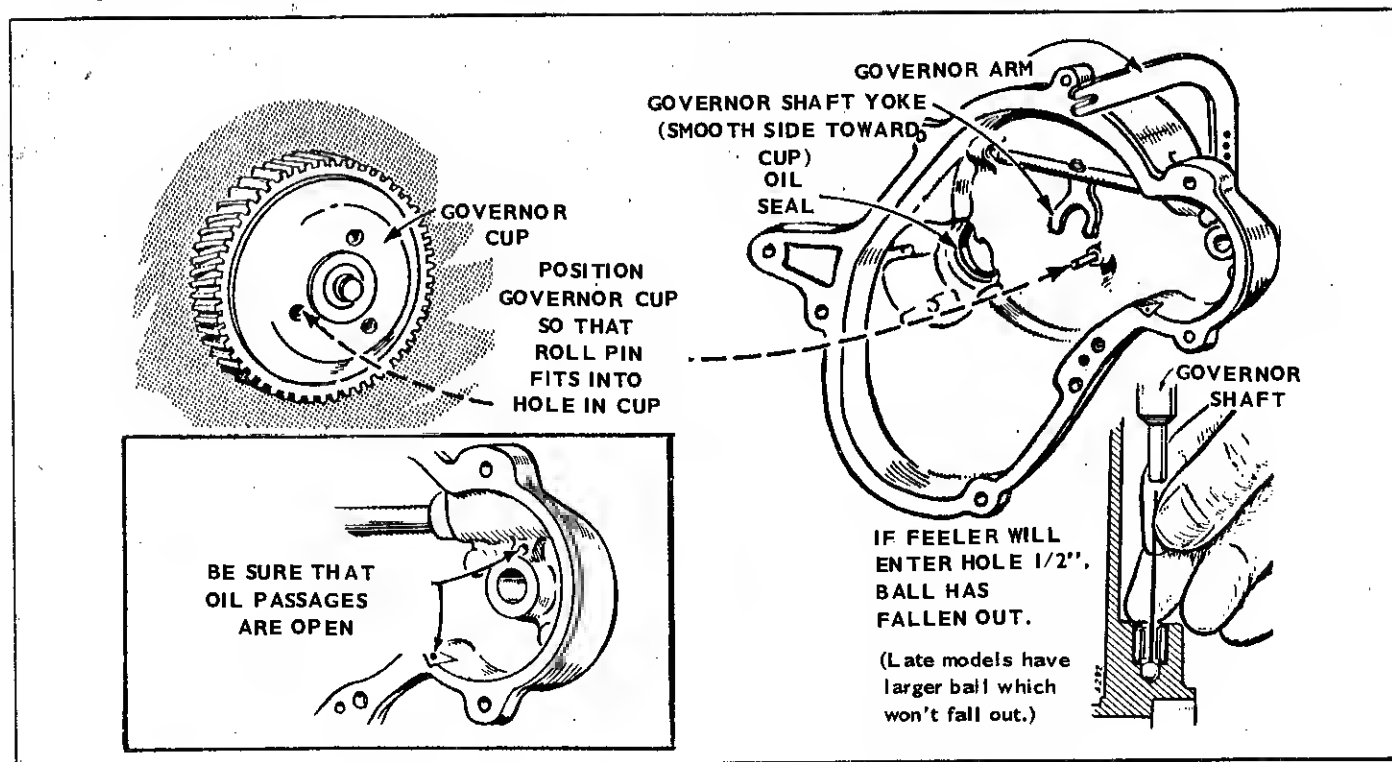

FIGURE 66. GEAR COVER AND GOVERNOR SHAFT
1. Operate the governor shaft to check for binding and see that the governor-shaft-end-thrust ball is in place (Fig. 66).
gear cover will fit into one of the holes in the cup surface (Fig. 66). Measure the distance from the end of the stop pin to the mounting face of the cover. It should be  $25/32''$ . If not, replace the pin. Position open edge of pin toward crankshaft seal to avoid governor cup drag.
3. Use an oil seal driver (or a piece of shim stock over the crankshaft keyway) to protect the oil seal and install the gear cover. Tighten the mounting screws to specified torque. Before tightening the screws, be sure the stop pin is in the governor cup hole (Fig. 66).